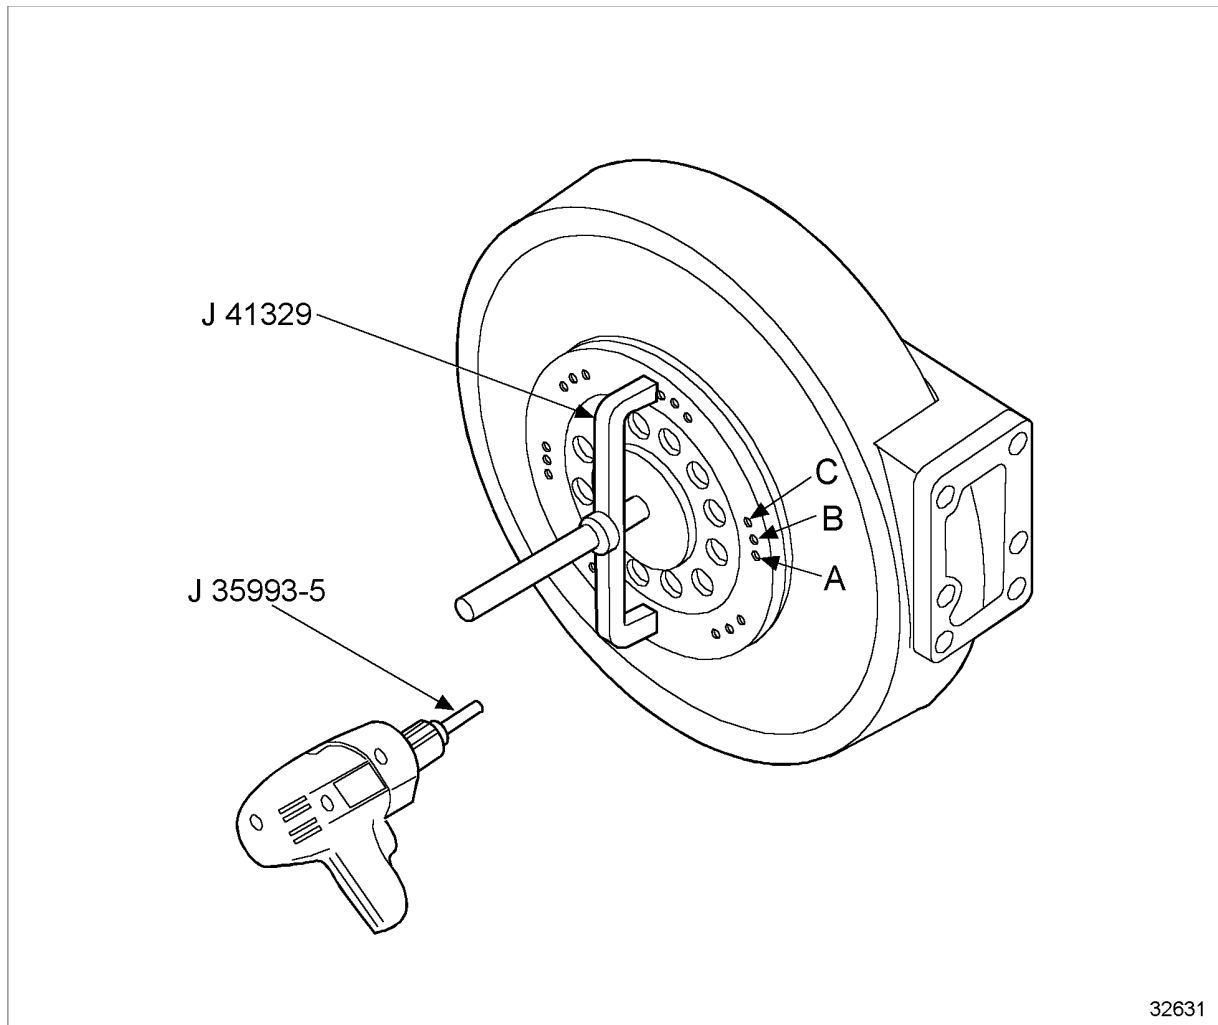

Figure 1-128 Rear Oil Seal Removal
2. Using variable speed drill motor and 5/32" bit, drill through outer and inner case of seal using smallest hole "A" as a guide. See Figure 1-128.